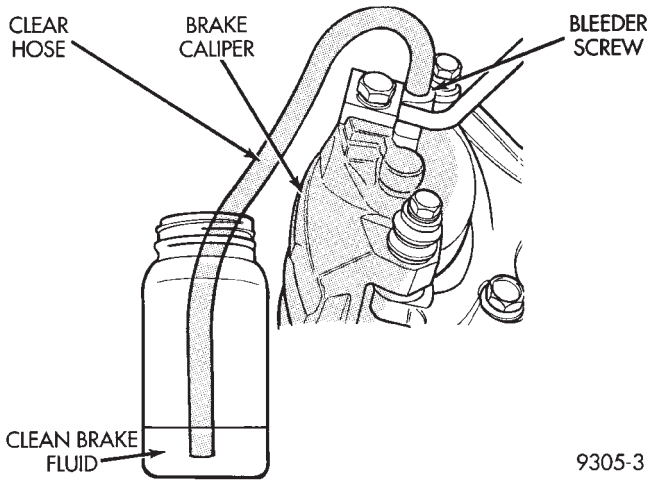

Fig. 30 Proper Method for Purging Air From Brake System (Typical)
(1) Attach a clear plastic hose to the bleeder screw starting at the right rear wheel and feed the hose into a clear jar containing enough fresh brake fluid to submerge the end of the hose (Fig. 30).
(2) Pump the brake pedal three or four times and hold it down before the bleeder screw is opened.
(3) Open the bleeder screw at least 1 full turn. When the bleeder screw opens the brake pedal will drop.
(4) Close the bleeder screw. Release the brake pedal only **after** the bleeder screw is closed.
(5) Repeat steps 1 through 3, four or five times at each bleeder screw. Then check the pedal for travel. If pedal travel is excessive or has not been improved, enough fluid has not passed through the system to expel all the trapped air. Be sure to monitor the fluid level in the master cylinder reservoir. It must stay at the proper level so air will not be allowed to re-enter the brake system.
(6) Test drive vehicle to be sure brakes are operating correctly and that pedal is solid.